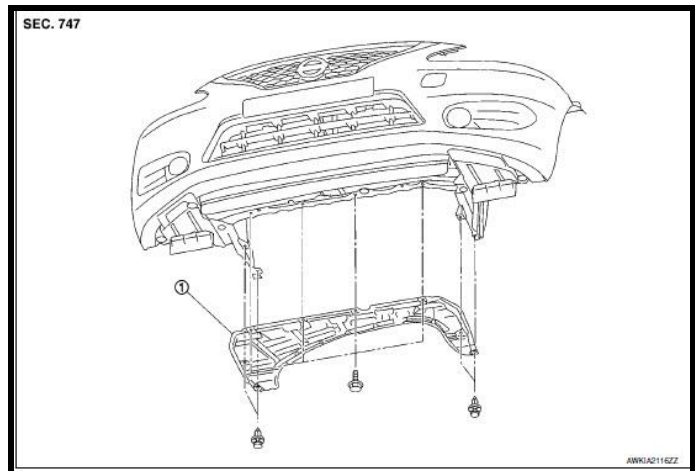

Figure 5
10. Remove front undercover to gain access to the lower radiator area (Refer to Figure 5).
- Remove (4) 10 mm bolts.
- Remove (4) retainer clips.